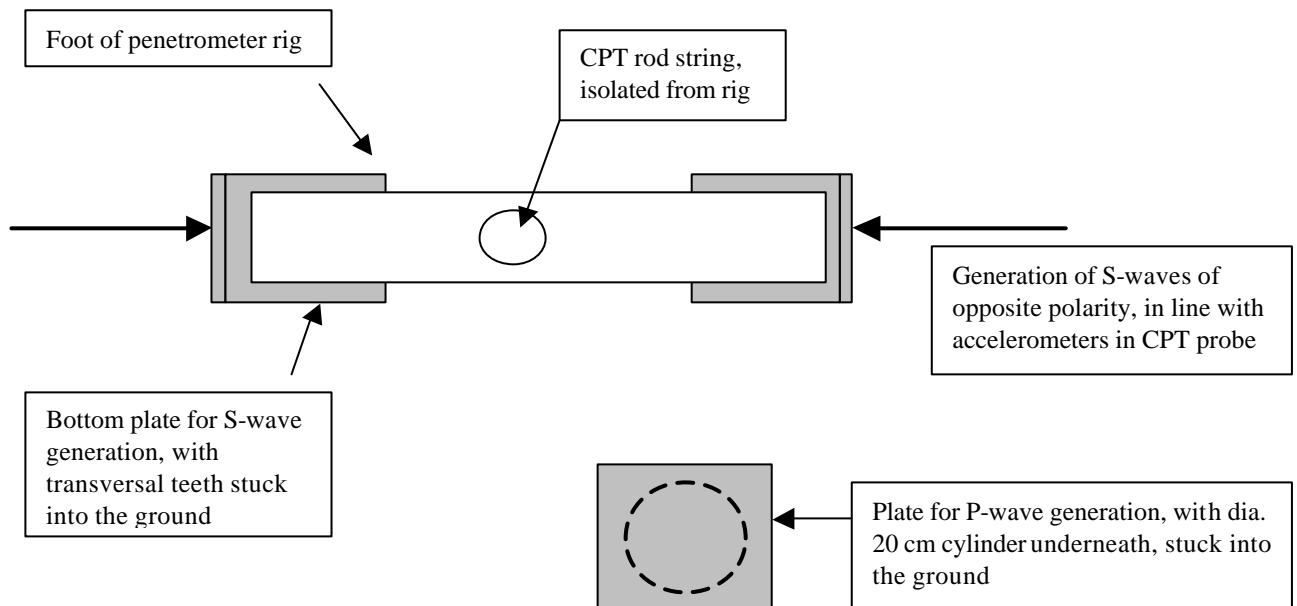

Figure 1: SCPT Acquisition Setup
- 1.6. For each measurement depth below the water table, calculate the cyclic stress ratio, as in Eq. 1. The stress reduction coefficient is estimated using Fig. 1